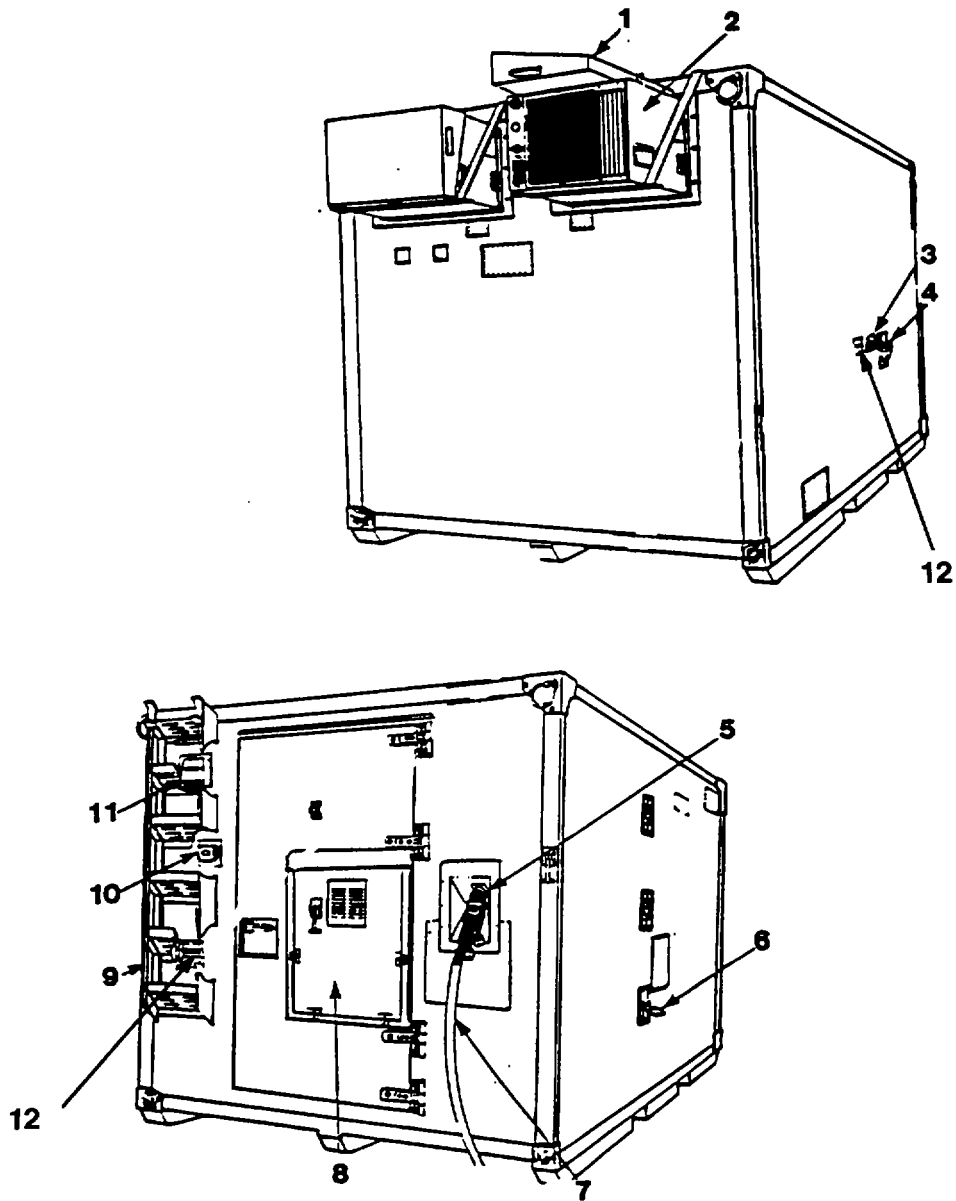

Figure 1-2. Location and Description of Major Components, Press Shelter, Exterior
1-11. LOCATION AND DESCRIPTION OF MAJOR COMPONENTS. Left and right orientation is determined by facing the shelter personnel door. Walls where air conditioners are located are considered front of shelter. Paragraph numbers below correspond to callouts in Figure 1-2 and 1-3. All equipment is located in its operational position.
- a. Press Shelter Exterior. Refer to Figure 1-2 for location of major components.
- (1) Condenser Cover. Protects the air conditioner when not in use and during transit of the shelter.
- (2) Air Conditioner. Provides temperature control for the shelter.
- (J) Water Tank Filler. Provides an outside means of filling water tank.
- (4) Sink Drain. Provides a means of draining sink.
- (5) Main Power Receptacle. Permits supply of power to interior main power service box when power cable is connected.
- (6) Folding Steps. Allows access to roof of shelter.
- (7) Main Power Cable. Used to supply shelter with power from power source.
- (8) Air Filter Weather Cover. Provides access to the removable foam-type air filter.
- (9) Ladder Assembly. Provides a means of entry to shelter when truck mounted.
- (10) Blackout Warning Switch. Activates an interior blackout warning buzzer to warn personnel in the shelter to turn off interior lights before opening door during blackout.